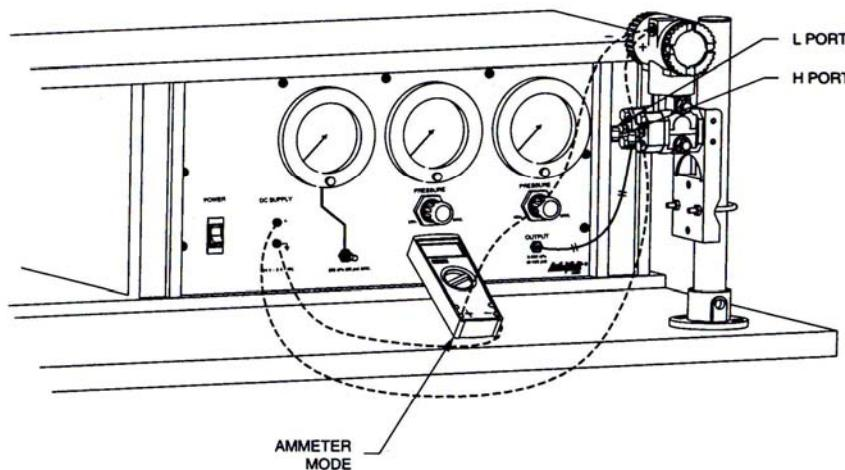

Figure 3-1. Calibration of a Differential Pressure Transmitter.
- 3. Connect the digital multimeter (DMM) of the Calibration Bench (placed in ammeter mode) and the transmitter to the 24 V dc power supply. Note the polarity as shown in Figure 3-1. The transmitter red supply lead corresponds to the positive (+) lead, while the yellow supply lead corresponds to the common (!) lead. The transmitter can deliver a maximum current of 20 mA. Select the proper range on the multimeter. Turn on the 24 V dc power supply. Finally, connect the pneumatic hand pump of the Calibration Bench to the high (H) pressure port of the pressure transmitter.